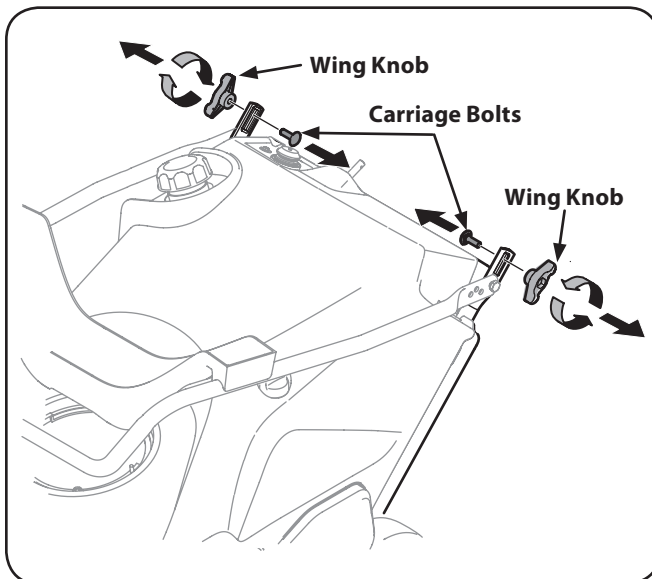

Figure 3-1
1. Remove the wing knob and carriage bolt from the top of the lower handle. See Fig. 3-1. It is not necessary to remove the shoulder screw and flange lock nut below the wing knob and carriage bolt.